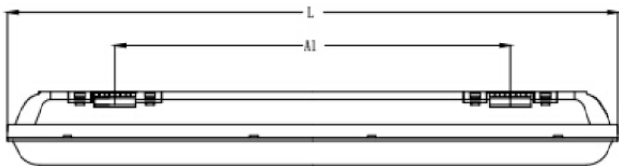

Fig. 1
- Using the mounting bracket as a template, mark the location for, and drill the fixing holes ensuring not to infringe with any gas/water pipes or electrical cables. Fixing centres are shown in Fig. 1